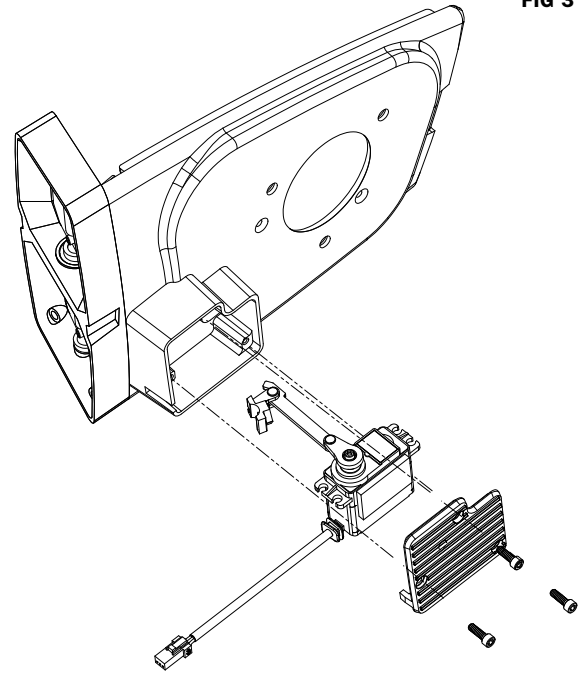

FIG 3
**STEP 4** Refer to FIG 3. On the back side of the assembly, remove the three (3) screws securing the servo motor plate to the back of the assembly. Carefully remove the existing servo motor from the assembly.
**STEP 6** Refer to FIG 3. Locate provided replacement servo motor. Remove the adhesive backer and insert it into the housing on the back of the assembly. Secure it in place by reinstalling the servo motor cover to the back of the air cleaner, using the three (3) screws that were removed in Step 4.